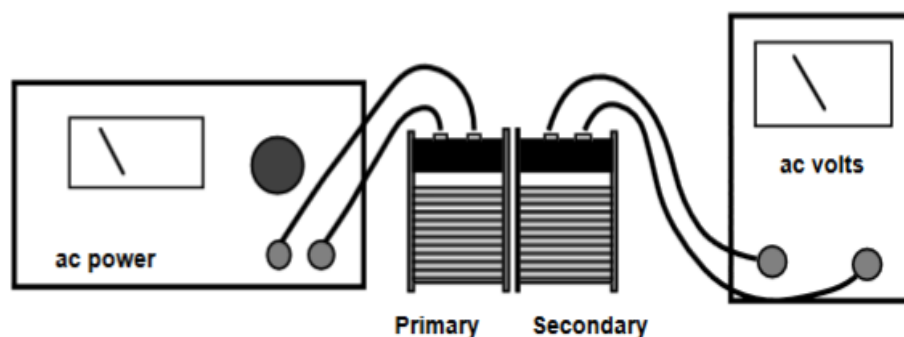

Figure 1. Primary and Secondary Coils connected correspondently to the power supply and voltmeter
2. Place two 400-turn coils side by side while connecting one coil to AC Power supply (Output 1 of the 850 Universal Interface, two rightmost ports) and another coil to the voltmeter (PASCO Voltage Sensor). See Figure 1.